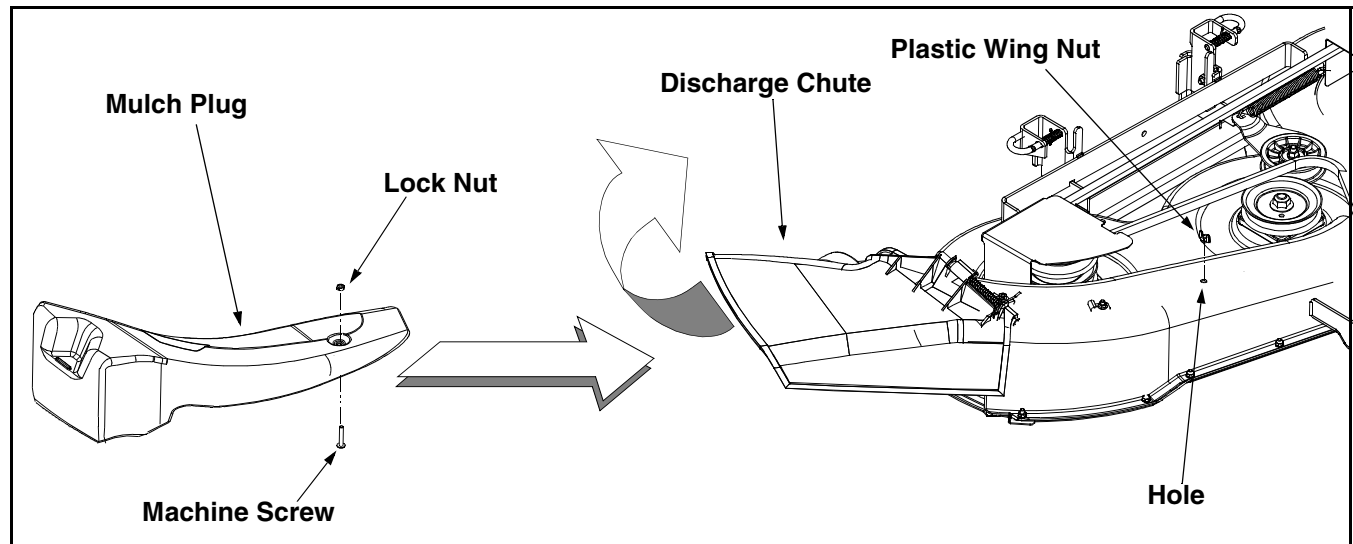

Figure 1
2. Insert the machine screw up through the mulch plug and fasten it in place with the lock nut. See Figure 1.
3. Pivot the discharge chute upward as shown in Figure 1 and carefully insert the mulch plug into the discharge chute opening.
4. Make sure the mulch plug is firmly attached to the cutting deck by aligning the machine screw in the mulch plug with the hole in the deck surface and fastening with the plastic wing nut. Refer to Figure 1.